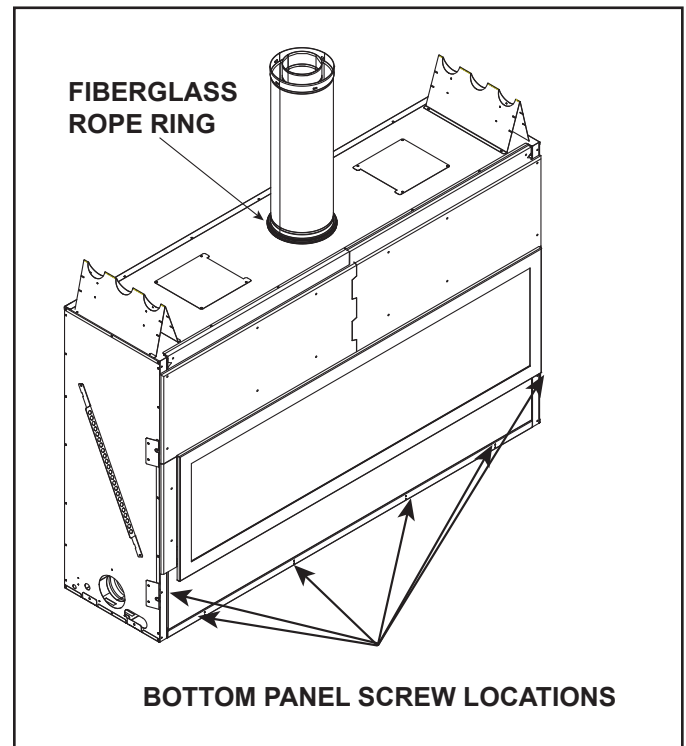

Figure 9.1 Location of Fiberglass Rope Ring
4. Remove bottom metal panel by removing six screws. Screw locations are shown in Figure 9.1. The four screws on the bottom side are located behind the panel. Remove all six screws and gently lift the panel off the appliance avoiding contact with the non-combustible board if possible.